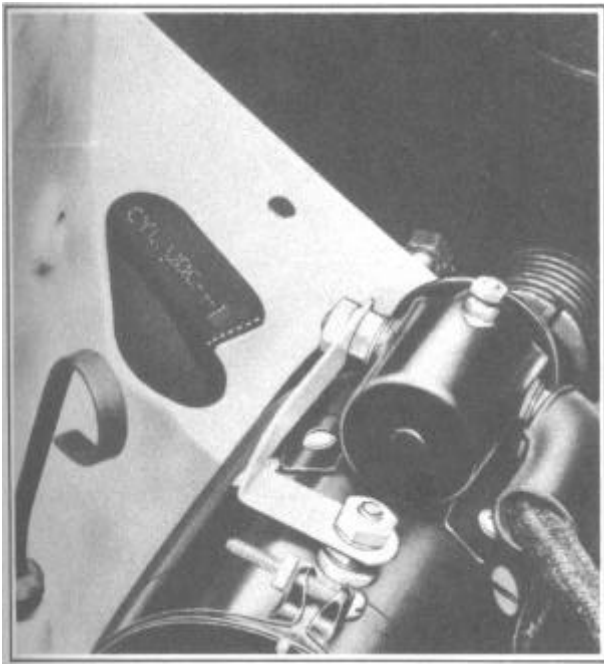

FIGURE 18
1. Line up the first line before the UDC mark on the flywheel with the pointer on the flywheel housing, Figure 18, with No. 1 cylinder on compression stroke.
Ignition timing may be accurately set by using a neon timing light. Connect the timing light as recommended by manufacturer. Mark the long line on the flywheel (Figure 18) with white chalk and loosen the screw attaching distributor quadrant to engine. Operate the engine at idle speed with the timing light aimed at the flywheel opening and rotate the distributor until chalk mark lines up with the pointer. Tighten the quadrant screw and accelerate the engine. Chalk mark should move to the left of pointer as centrifugal governor advances the spark.